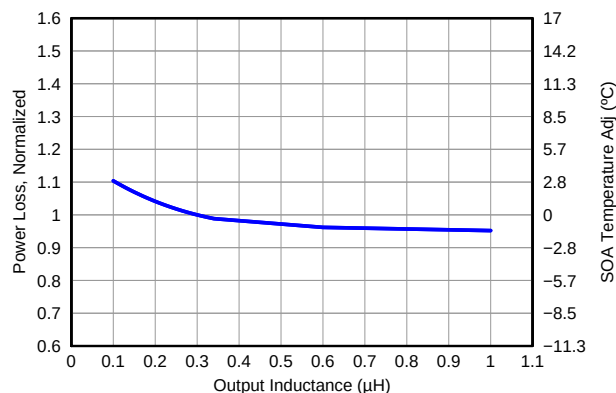

Figure 15. Normalized Power Loss vs Output Inductance
- Normalized Power Loss for output inductor ≈ 1.04 (Figure 15)
- SOA adjustment for output inductor $\approx 1.3^\circ C$ (Figure 15)